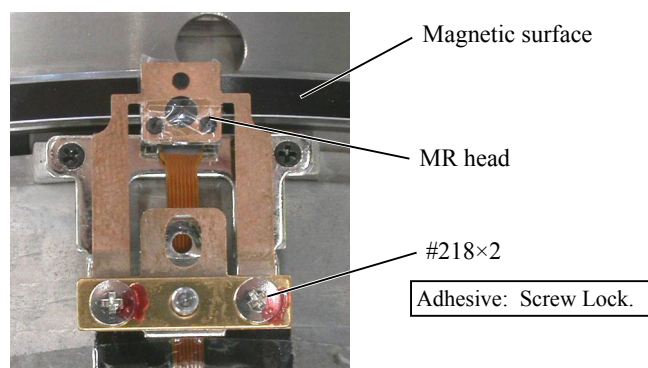

Fig.1
- ⑥ In case the amplitude is small, loosen 2 screws (#218) as shown in Fig. 1 and make an adjustment by moving the MR head.